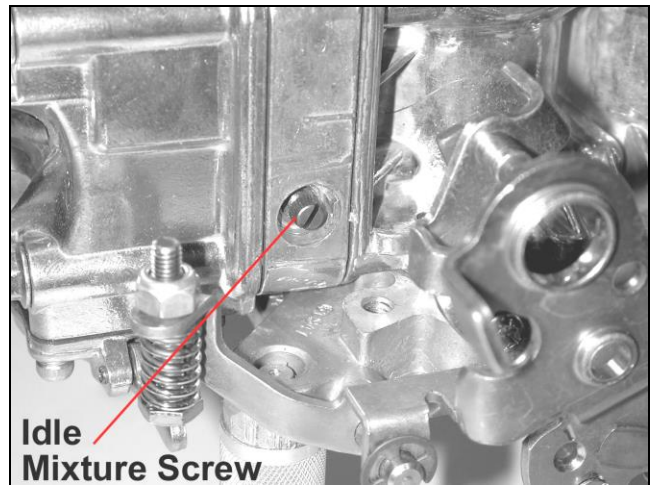

Figure 9
2. Adjust each idle mixture screw (**Figure 9**) 1/8 turn at a time, alternating between each screw. Turn them equally, until you achieve the highest possible vacuum reading without adjusting the curb idle speed screw. Turn screws in to lean the mixture. Turn them out to richen the mixture.